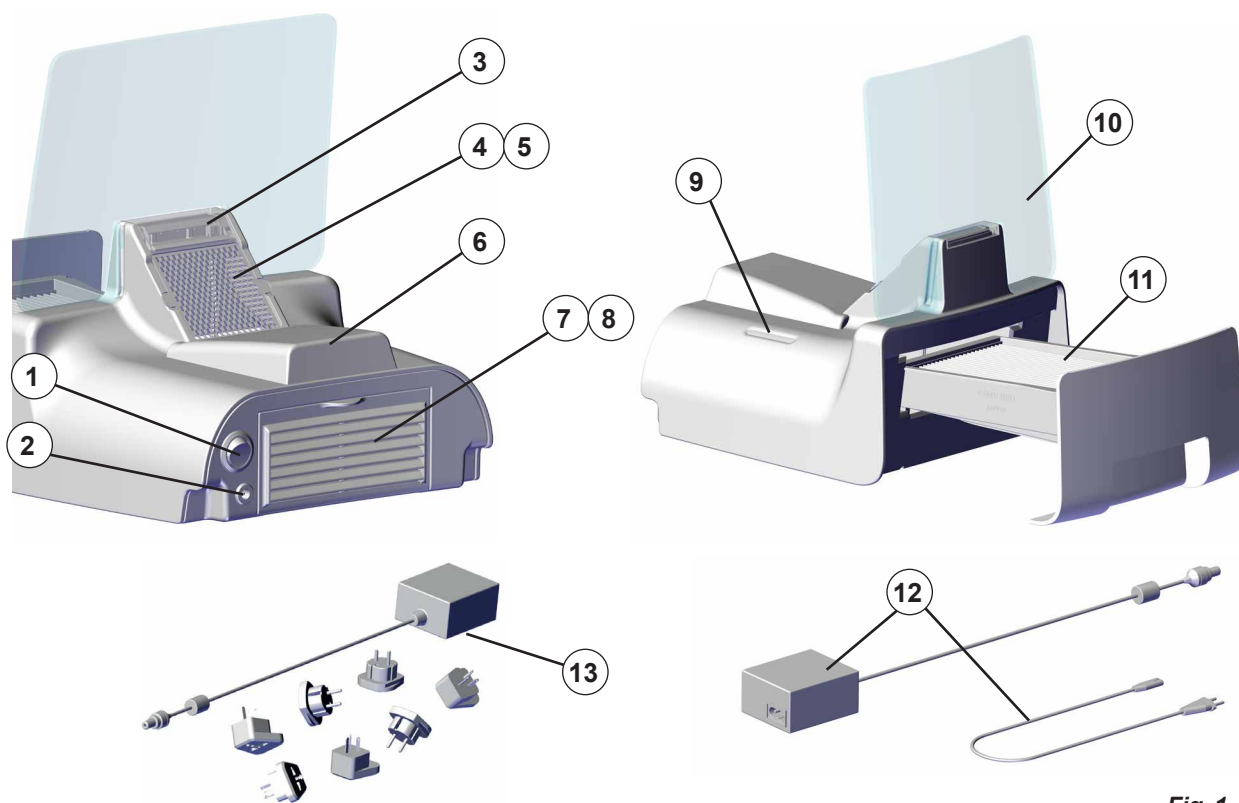

Fig. 1
- ⇒ Use the on/off switch (1, Fig. 1) to turn off the unit.
Desktop power supply (12, Fig. 1):
Plug-in power supply (13, Fig. 1):
Use the On/Off switch (1, Fig. 1) to switch the unit on and off.